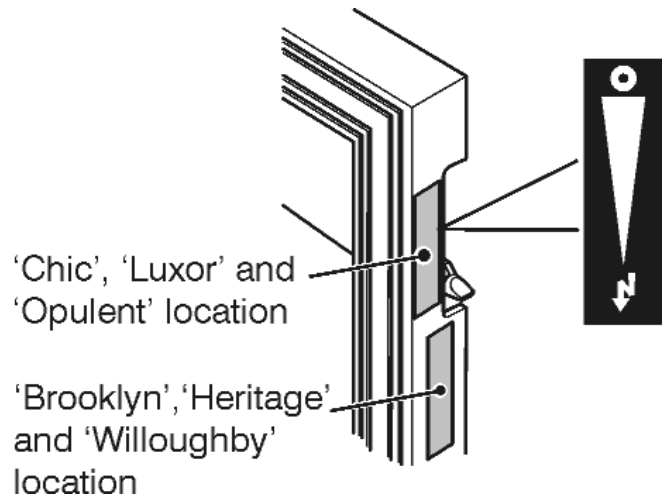

Figure 30. Control position label
4. Supplied with the fire is a self adhesive control position label. Peel the backing from the label and place as in figure 30.
6. Supplied with the fire is a self adhesive control position label. Peel the backing from the label and place as in figure 30.
7. Supplied with the fire is a self adhesive control position label. Peel the backing from the label and place as in figure 30.